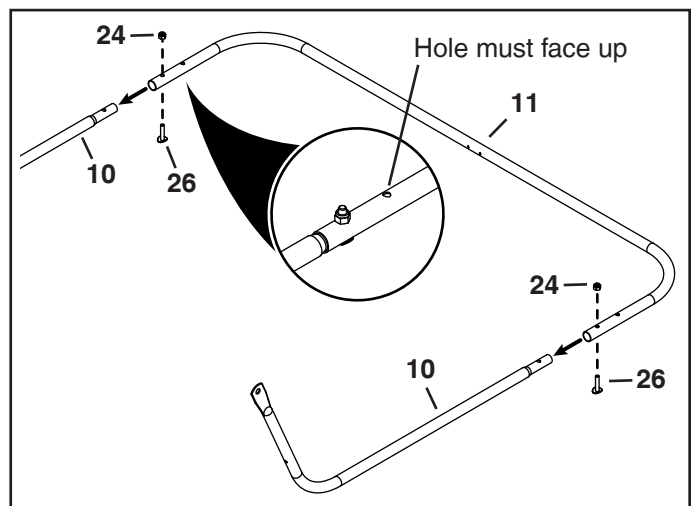

FIGURE 8
STEP 8: (SEE FIGURE 8)
- Install a rear hopper tube (11) onto the ends of the lower hopper tubes (10) making sure the holes in the rear hopper tube are facing up.
- Secure the rear hopper tube (11) to the lower hopper tubes (10) with two 1/4" x 1" curved head bolts (26) and 1/4" nylock nuts (24).